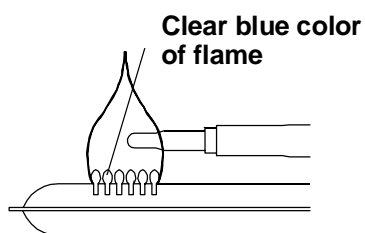

**FIG. 12**
column. The correct place to take the LP gas pressure is at the test port just ahead of the burner jet. (See FIG. 12).
6. Remove the burner mounting screws and remove the burner assembly. (See FIG. 12).